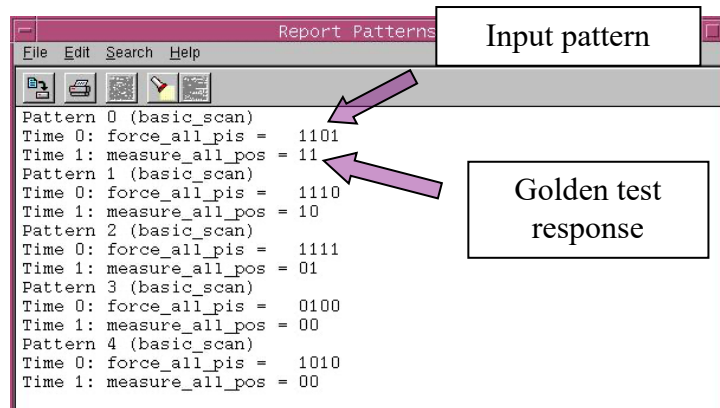

Figure 5: Report pattern window
- Pattern sequence: In the **Patterns** menu, choose **Report Patterns** to view the list of test vectors (see Figure 5). Verify that you get the the same results as the test tool.